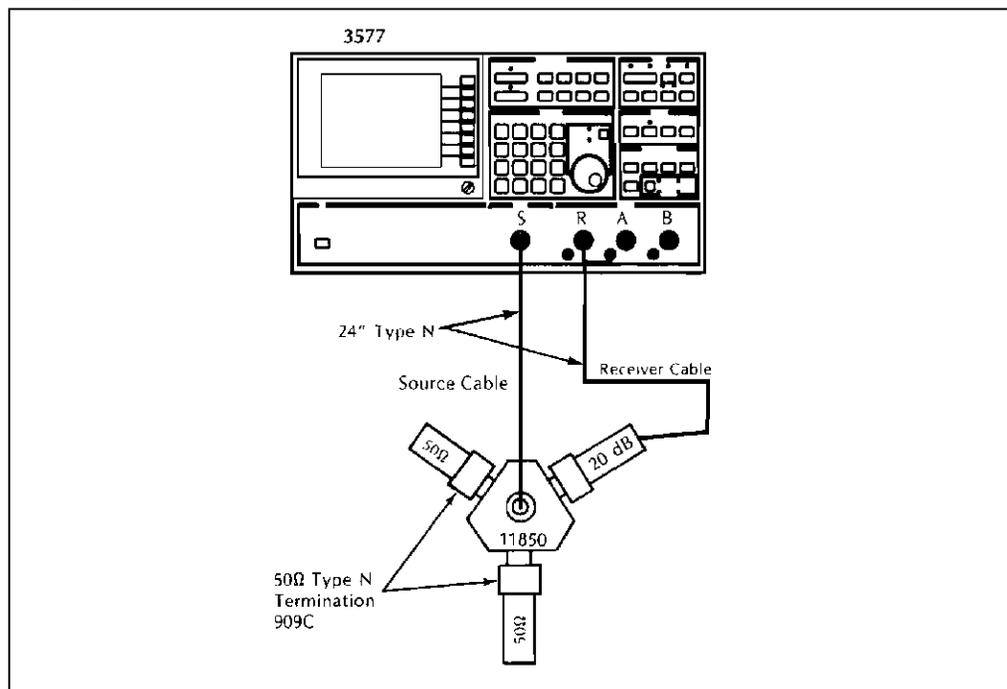

Figure 3-18 Source Flatness and Absolute Accuracy Test Set-Up
The test configuration used for calibration of channel R is very similar to that used for the receiver performance test. The EPM-1 power meter levels the 3577A source, maintaining an output of 0 dB at each of the power splitter ports. One output of the power splitter is attenuated by 20 dB and input to channel R. A single sweep is made and the error response of channel R is displayed after error correction for the transmission loss from the attenuator to channel R [Chan-R-error(freq)]. The results are stored in register D1. The final sweep is the source accuracy and flatness measurement, which is made without the EPM-1 (Figure 3-18) and is the product of the source and receiver error response [Source-error \times Chan-R-error]. The ratio of the final sweep with the receiver calibration sweep is the source frequency error.
- s. Disconnect the EPM-1 (including the Error Correction Cable—remember to reinstall the factory installed jumper) and set up the equipment as shown in Figure 3-18.